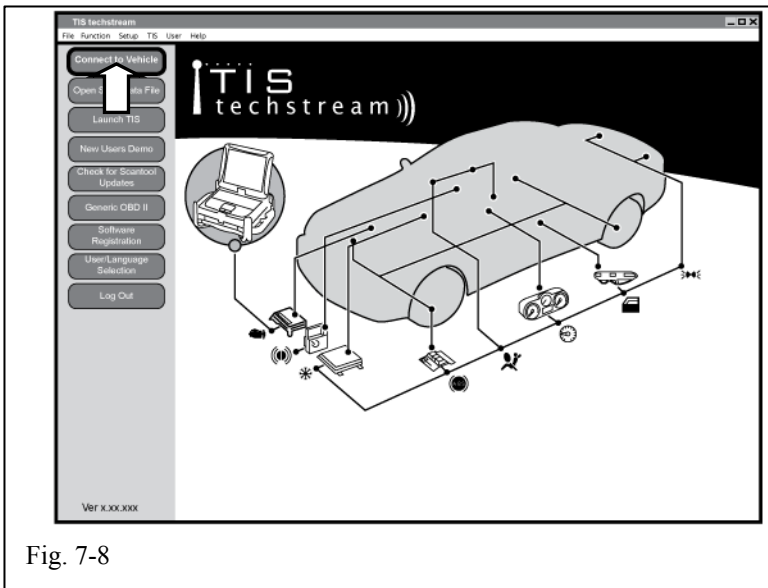

Fig. 7-8
- (m) Click "Connect to Vehicle" (Fig. 7-8)